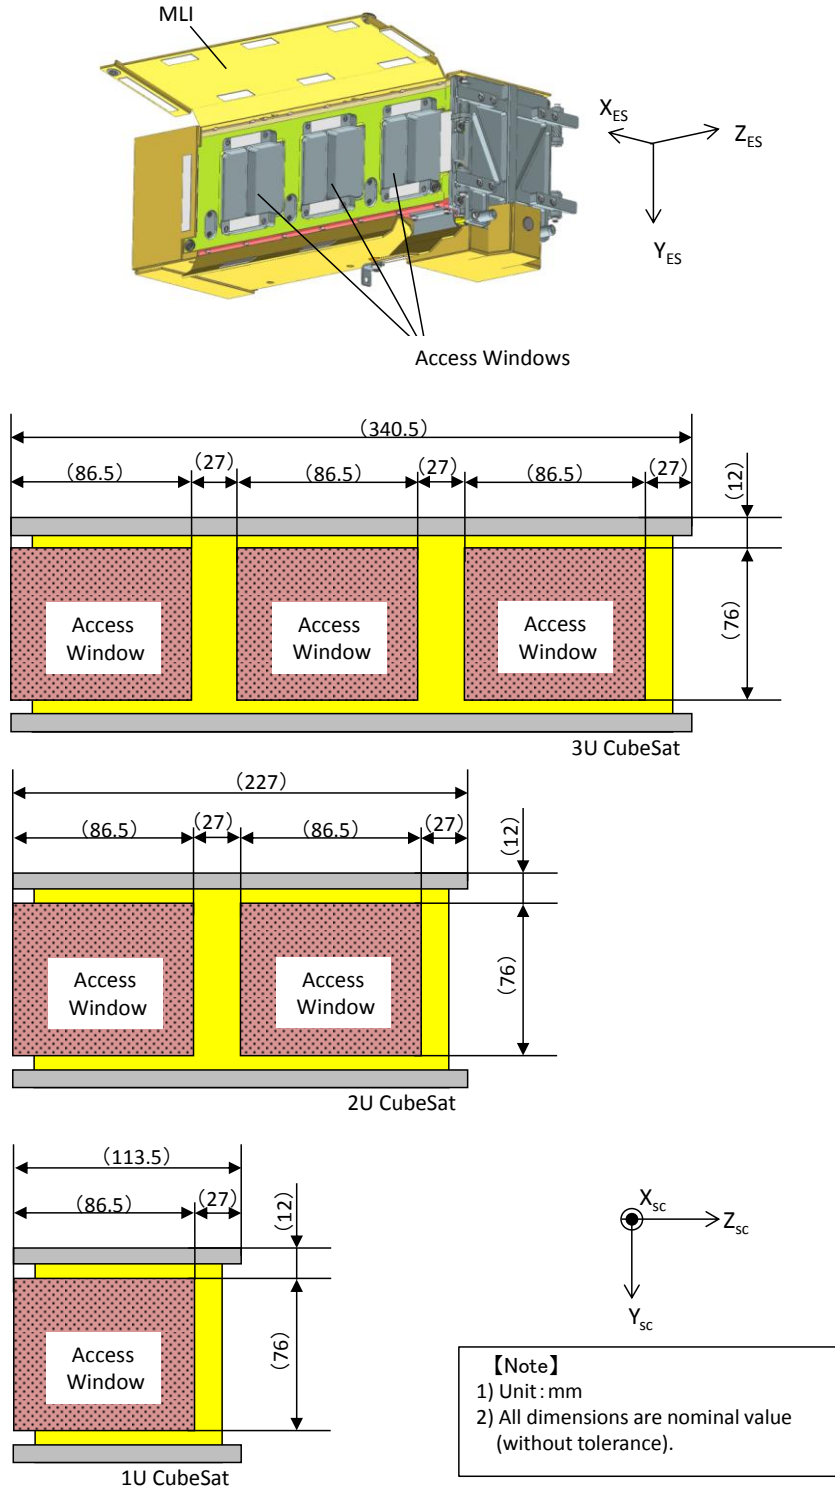

Figure C3-8 Normal Positions of Access Windows
- (1) A CubeSat installed in an E-SSOD can be only accessible through the $+X_{ES}$ ($=+X_{sc}$) axis side as shown in Figure C3-8.
- (2) Any device needs to be accessed after the installation shall be located in the area near access windows.
- (3) Access through a PLF is not available.
A CubeSat shall have a bonding interface on the side of access windows (Figure C3-8) in case access is required after the installation in an E-SSOD.